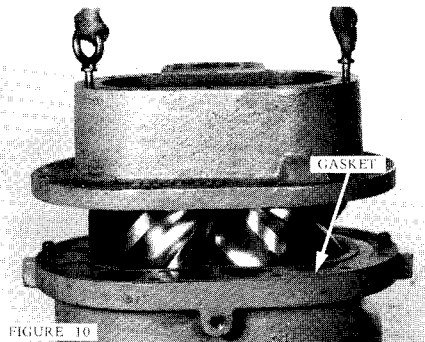

FIGURE 10
10. Remove both bearing retainer plates and shims. Make a rotor press plate as shown in Sketch A. With plate and hydraulic jack rigged as shown in Figure 10, press the rotor shafts through the discharge end bearings. Be sure the rotor is well supported so it does not fall when shaft clears bearing. Use a shaft protector between end of shaft and jack to prevent shaft damage. The studs supporting the press plate to the discharge end plate must be long enough for longest rotor shaft extension plus hydraulic jack and plate thickness.